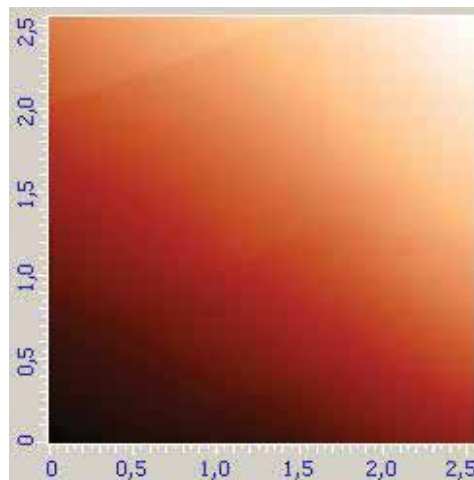
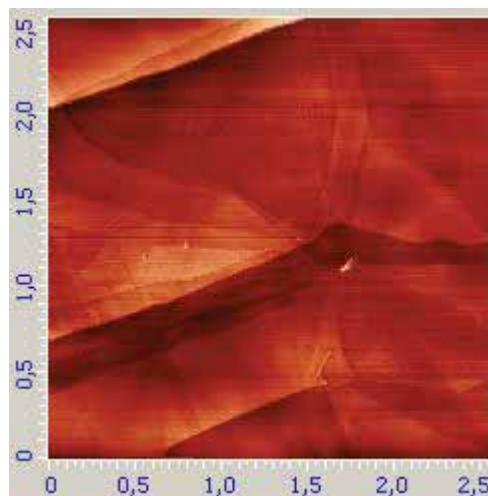

Fig. 10-14. Surface topography image
Fig. 10-17. Surface topography image
- Line-by-line scanning of the sample surface starts and the corresponding image of the scan area appears in the 2D Viewer of the scan data (see Fig. 10-14). In the example under consideration, this is an image of the graphite;
Data in the example above (see Fig. 10-14, Fig. 10-15) reveal that the sample is tilted to some degree in X direction.
To activate run-time subtraction, click this button and select the **Plane** option in the corresponding list. This entails subtraction of the plane tilt, and the original image, illustrated in Fig. 10-14, is transformed into the image shown in Fig. 10-17.